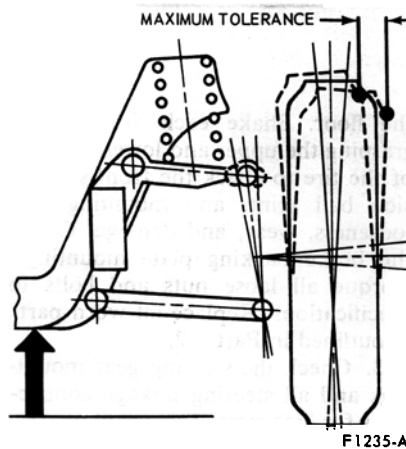

FIG. 14—Measuring Upper Ball Joint Radial Play
1. Raise the car on a frame contact hoist or by floor jacks placed beneath the underbody until the wheel falls to the full down position as shown in Fig. 14. This will unload the upper ball joint.
5. Grasp the tire at the top and bottom, and slowly move the tire in and out (Fig. 14). Note the reading (radial play) on the dial indicator. If the reading exceeds specifications (Part 3-6), replace the upper ball joint.